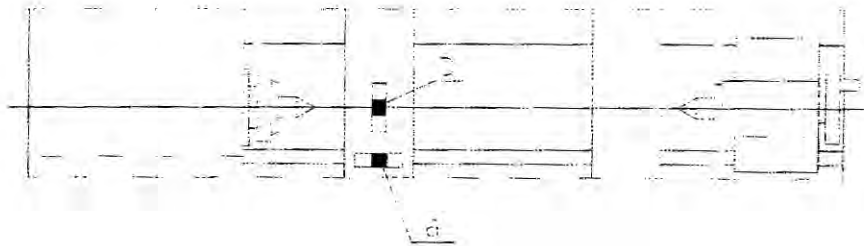

Fig. 4 Leveling of the machine
4.6 Leveling of the machine(See Fig 4)
are at the same level. It is also necessary to rectify the distortion of the bed. So the level gage should be placed as shown in Fig 4. Take the reading in one direction every 250mm. The max. reading should not exceed ± 3 scales with the accuracy of the level gage being 0.02/1000 per scale. At cross position the reading should not exceed 2 scales.